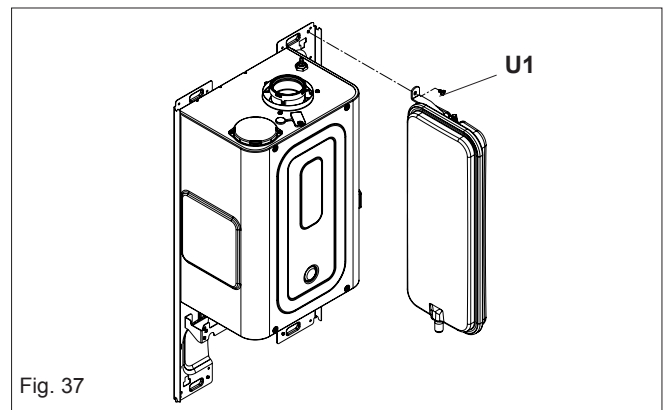

Fig. 37
6.18 EXPANSION VESSEL REMOVAL (fig. 37)